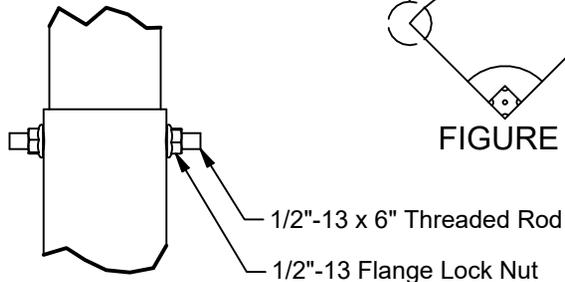

FIGURE 3
- 8) Install the 1/2" thread rod and flange nuts on to the sleeve (figure 3). (Provided w/ Jaypro Foul Pole: BBFP-20)